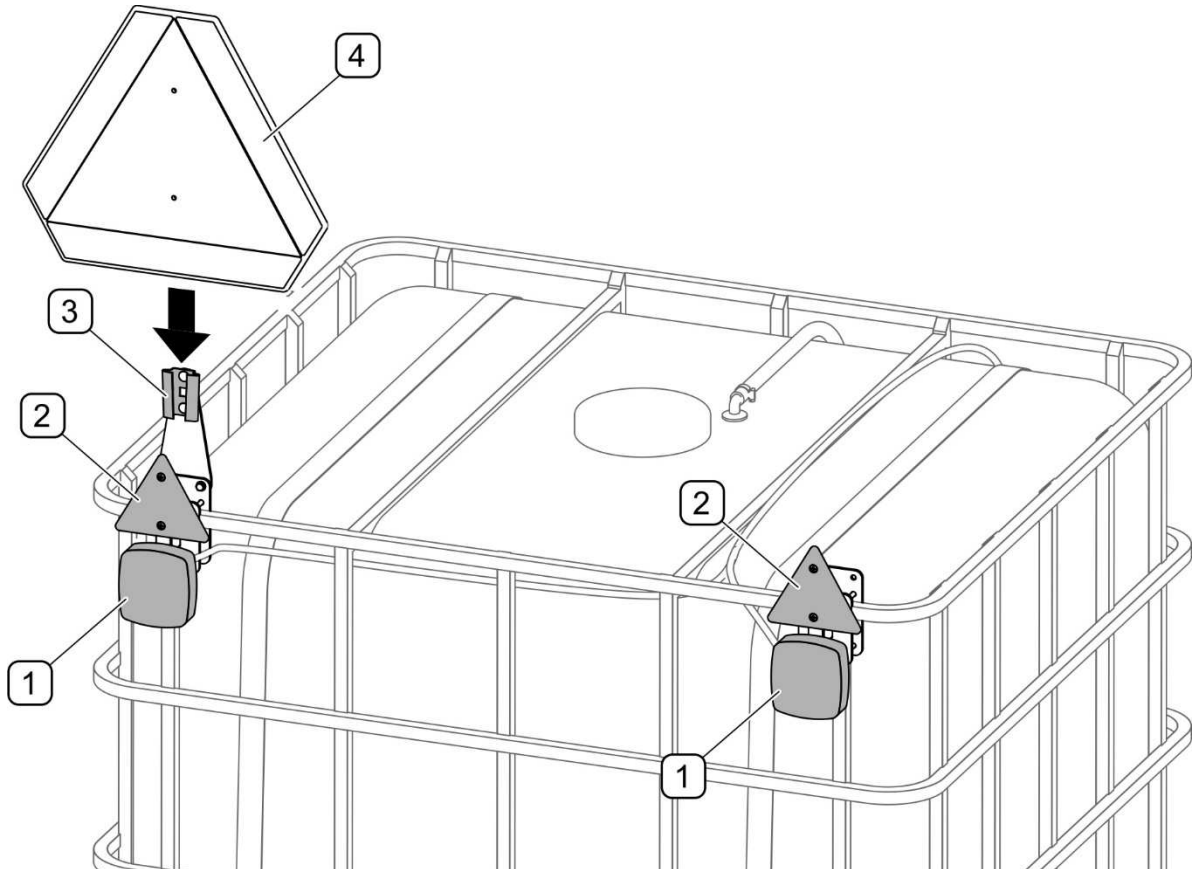

FIGURE 4.5 Additional lights and bracket for the warning sign (option)
- The machine mounted on the rear three-point linkage must be equipped with additional lights (FIGURE 4.5) installed at the rear on the tank frame (option).
- If the machine obscures the slow-moving vehicle warning sign attached to the back of the tractor, the warning sign must be mounted on a dedicated bracket (FIGURE 4.5) in the rear section of the tank (option).